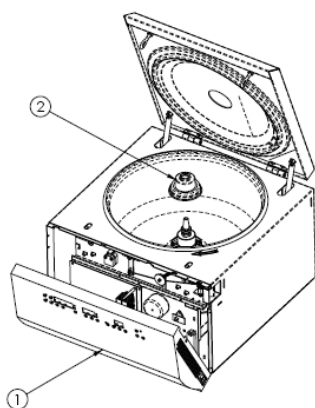

Fig. 1
- Remove the seal in the base of the bowl. (Fig. 1).